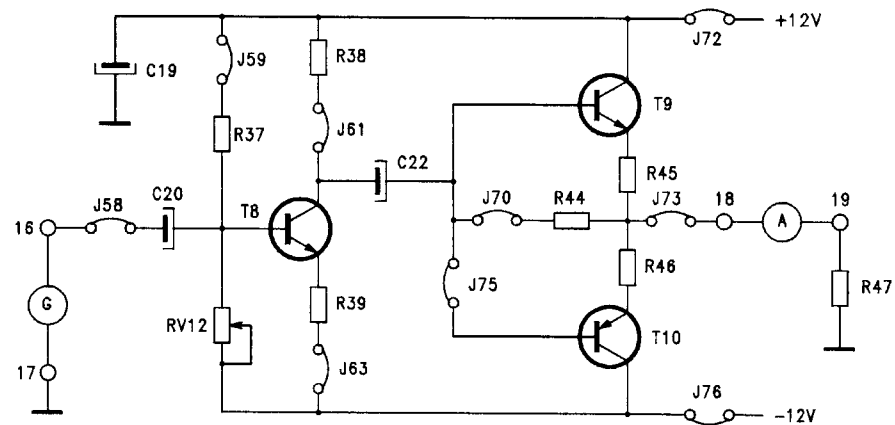

fig. B31.5
- Insert jumpers J58, J59, J61, J63, J70, J72, J73, J75, J76, and the multimeter (function IDC) between terminals 18 and 19, to produce the circuit of figure B31.5